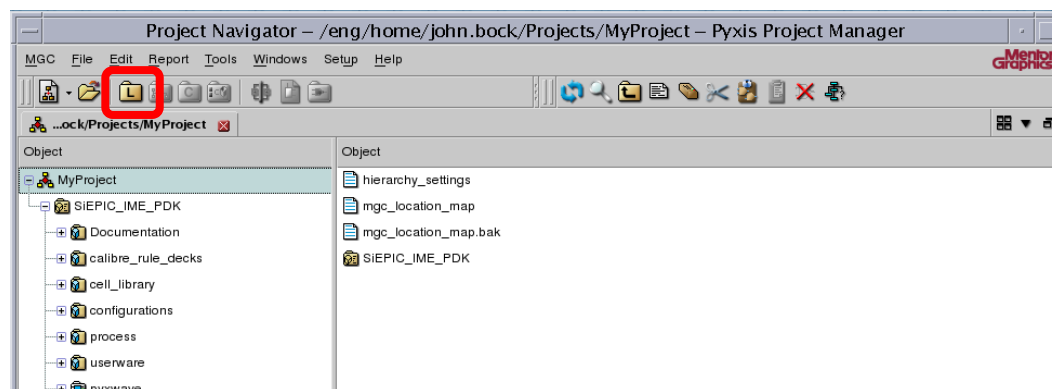

Figure 11: Creating a New Library
2. On the toolbar, click the icon **New Library** (see Figure 11).